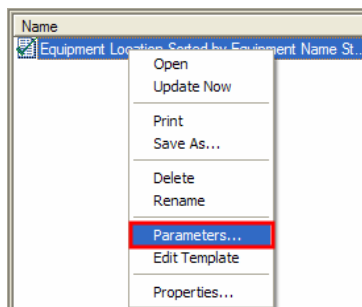

Figure 10: Parameters Command
1. In the **Drawings and Reports** task, locate the report **Equipment Location Sorted by Equipment Name Style 1-1-0001** that was created in the previous lab. Right-click on the report and select **Parameters...** from the right-click menu, as shown in Figure 10.